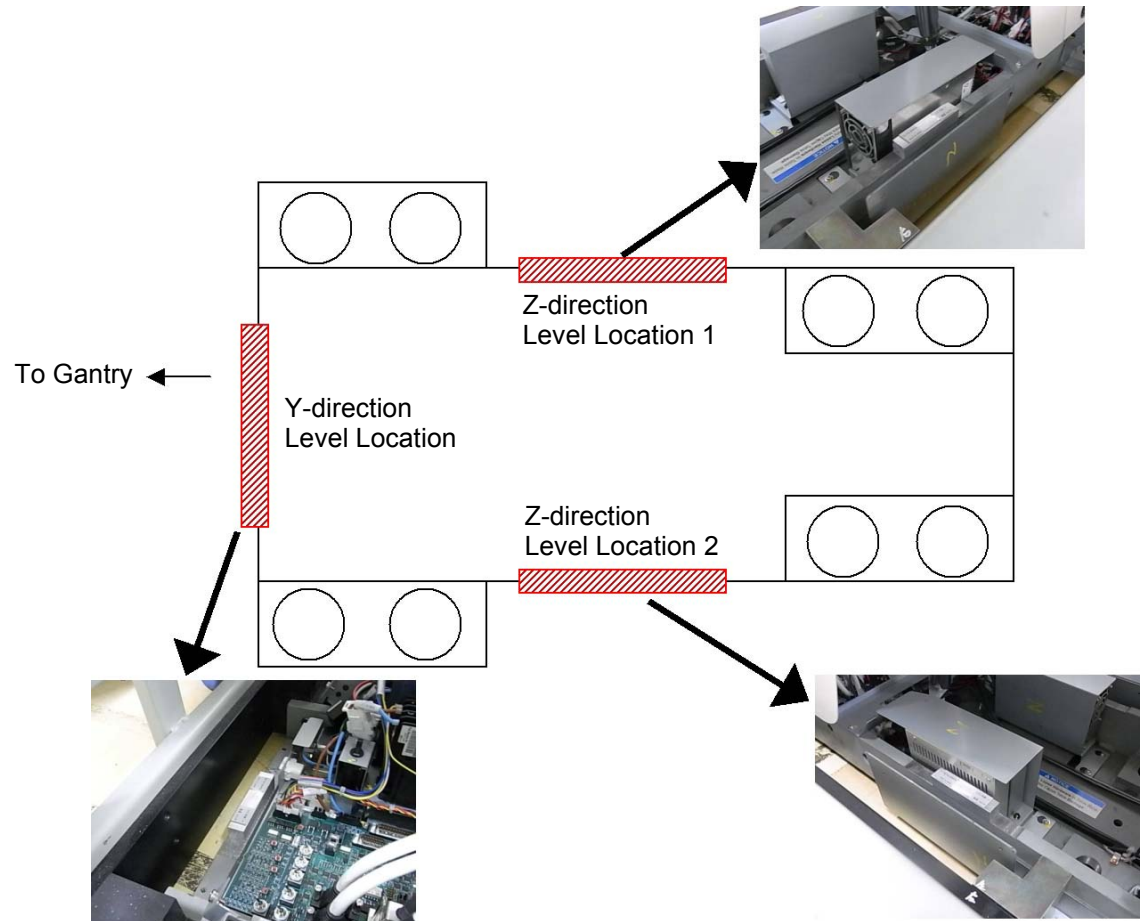

Figure 1-37 Level Location on the Table Base
9.) Place the bubble level on the table base. Refer to Figure 1-37.
- The cradle is leveled in the Z-direction at 2 positions shown in Figure 1-37.